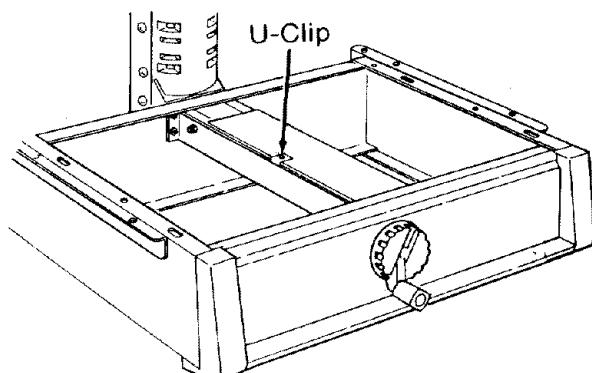

Fig. 65
3. Slide a *U-clip* onto the center channel of the *saw* as shown. (Figure 65 & 66)